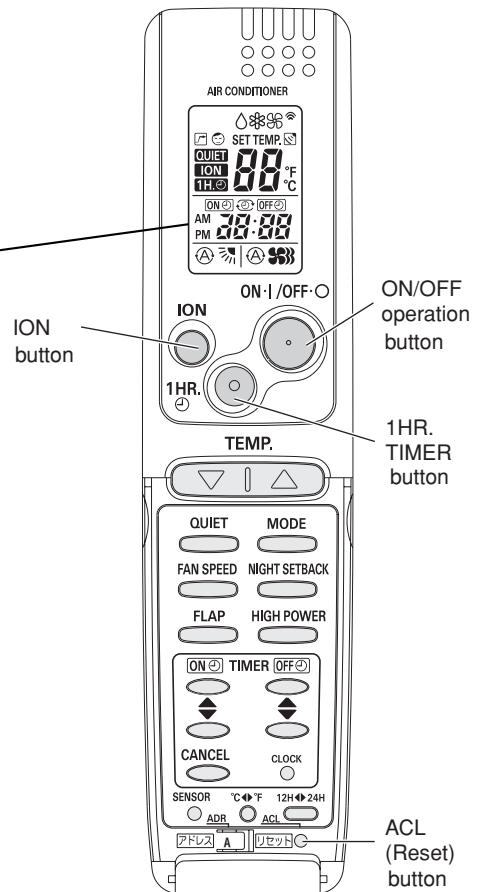

Fig. 64
- (5) "oP-7" has now been selected for address setting.
- (6) Press the ON/OFF operation button on the remote controller. (Fig. 64) Check that the "beep" signal-received sound is heard from the second indoor unit (approximately 5 times). The sound you hear is the signal that the remote controller address has been changed.
- (7) Finally press the remote controller ACL (reset) button to cancel the blinking "oP-7" display. (Fig. 64)